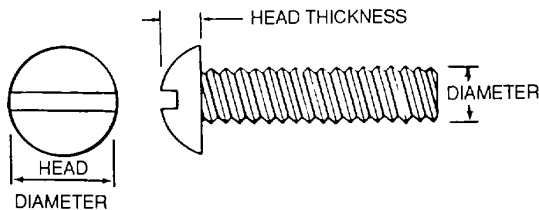

Figure 2-41. Round-Head Machine Screw
f. **Electrical Screws.** Use round-head machine screws, AN508, as shown in figure 2-41, for electrical use in such application as instrument installations where nonmagnetic qualities are desired.